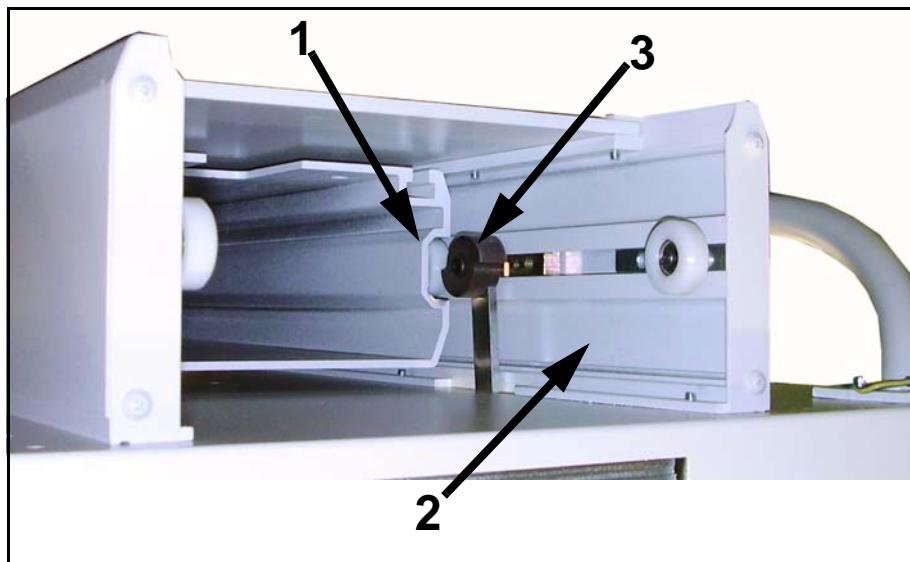

Figure 6-27. Cams Exposed
- 6 Slide top of column (1 in Figure 6-27) about halfway through cassette holder sleeve (2) until cams (3) are exposed.